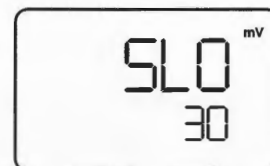
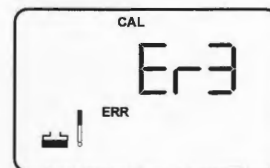

Figure 6: Slope value in mV
Figure 7: Error message Er3 if slope not within range
Calibration values are successfully stored if the ISE slope is within the specified tolerance of 15mV/decade (minimum) and 90mV/decade (maximum), otherwise an error message "Er3" is displayed (see Figure 7). The calibration values are not stored into the meter's built-in memory if any error message appears after each calibration process. Re-calibration is necessary as calibration is unsuccessfully attempted in this instance. Check that your ISE and standard solutions are in good working conditions.
NOTE: If you are performing a 2-point ion calibration, press **CAL/MEAS** key. "SLO" appears in the upper display with the [mV] indicator and the number in the lower display is the electrode slope in mV (see Figure 6). You are ready to take ion measurements. If the slope is outside the acceptable limits or if incorrect standards have been used the upper display will show "Er3" (see Figure 7).
8. Allow meter to stabilize in the next calibration standard. Wait for the [READY] indicator to appear before you press the **ENTER** key to confirm the third calibration point. The upper display flashes for a few seconds then "SLO" appears in the upper display with the mV indicator, the number in the lower display is the average electrode slope in mV (see Figure 6). After a few seconds the meter reverts to the measurement mode. You are now ready to take ion measurement.